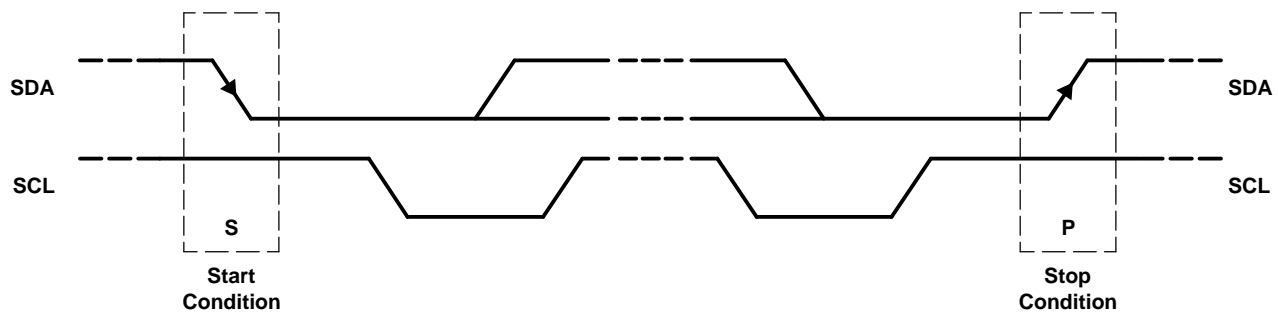

Figure 31. START and STOP Conditions
- The *master* initiates data transfer by generating a *start condition*. The *start condition* is when a high-to-low transition occurs on the SDA line while SCL is high, as shown in Figure 31. All I2C-compatible devices should recognize a *start condition*.
- To signal the end of the data transfer, the master generates a *stop condition* by pulling the SDA line from low to high while the SCL line is high (see Figure 31). This releases the bus and stops the communication link with the addressed slave. All I2C compatible devices must recognize the stop condition. Upon the receipt of a *stop condition*, all devices know that the bus is released, and they wait for a *start condition* followed by a matching address.